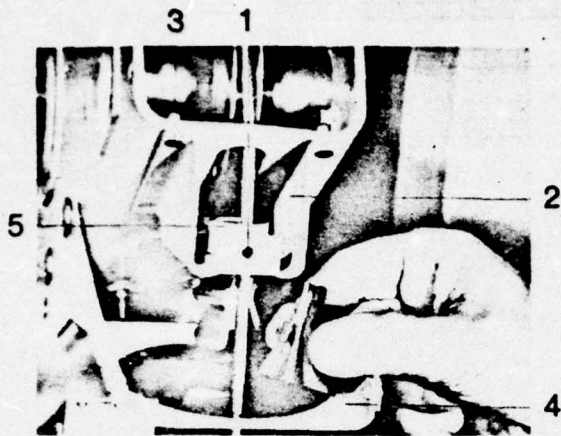
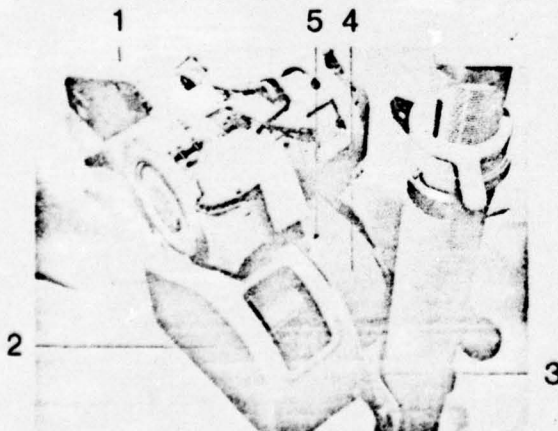

Figure 3.19
Figure 3.23
1. Cover plate (1, Figure 3.23) loosened by taking out one cheesehead screw M4 x 12 DIN 912 along with plate 4.3 DIN 125 at the spot (1, Figure 3.19).
2. Holder (2, Figure 3.19) with separated intake funnel passed through the borehole of the clutch lever (4, Figure 3.19)
after taking out four countersunk screws M4 x 12 DIN 7991 (3, Figure 3.19).
3. Place open-end wrench  $s = 24$  mm at a slant from above on the nut (5, Figure 3.19) and take out intake funnel with open-end wrench  $s = 32$  mm.
3. Remove cover plate (4, Figure 3.23) after unscrewing one cheesehead screw M4 x 12 DIN 912 with plate 4.3 DIN 125 (5, Figure 3.23) and a similar screw with plate on the underside of the jib, removal taking place slanting upward.